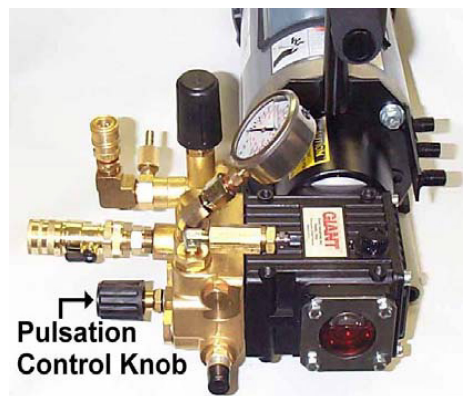

Fig. 7
13. The “Mini Jet” Comes equipped with a Pulsator (see Fig. 7). The purpose of the pulsation is to assist in moving the water jet hose through the pipe. The pulsator unit operates by creating a vibration or pulsing action on the hose using pressurized water. The pulsing or vibration action reduces hose drag in a pipe by reducing surface contact of the hose on the pipe and, with the assistance of the water jet nozzle, causes the hose to propel itself into the pipe farther and faster.